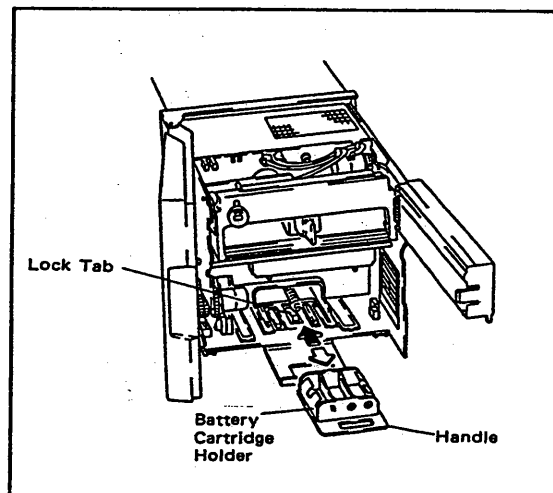

Figure 5-15.
- (1) Open the unit front door by inserting fingertips into the recessed area on the right side near the front and pull outward. Grasp the internal unit handle located at the lower front of the unit and pull the internal assembly as far out as possible. (See Figure 5-15.)
- (2) Switch power on by pressing the "POWER" switch to the "ON" position. Note that the stored program may be erased if the battery is replaced with the "POWER" switch set to OFF. The power switch is located on the right side of the extended unit next to the key pad and just under the key lock. (See Figure 5-15.)
cartridge holder lock tab is located just under the middle battery under the cartridge handle. (See Figure 5-15.)